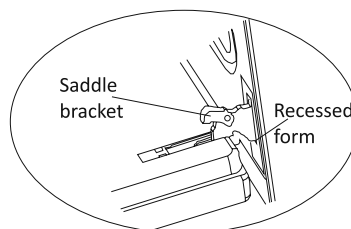

Fig 29.
2. Open the saddle bracket (with aid of screwdriver, tongs etc.) up to end position (**Fig 29**).
Please pay attention that the recessed forms should be positioned properly on the hinge counterparts as shown on **Fig 29**.